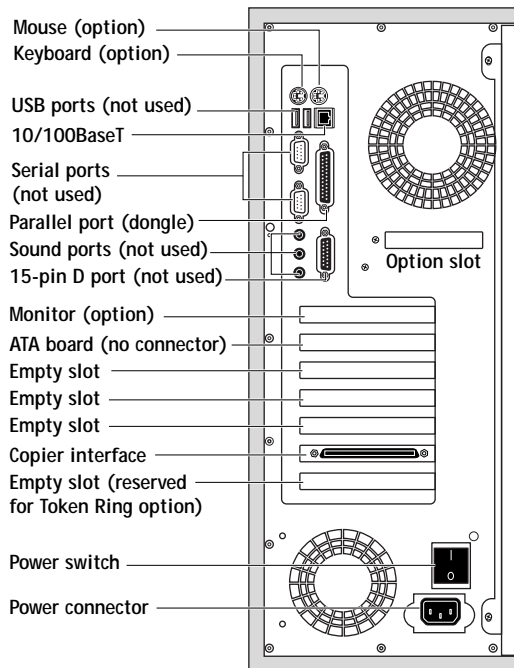

FIGURE 5-2 Back panel of the E-820
- All interface cables to the system are plugged into the proper connectors on the back panel of the E-820 (see Figure 5-2).